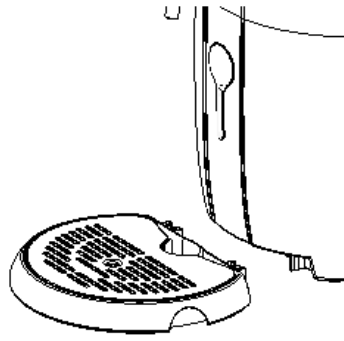

FIGURE 2
3. Set the water drip tray into the notch provided (As shown in figure 2).